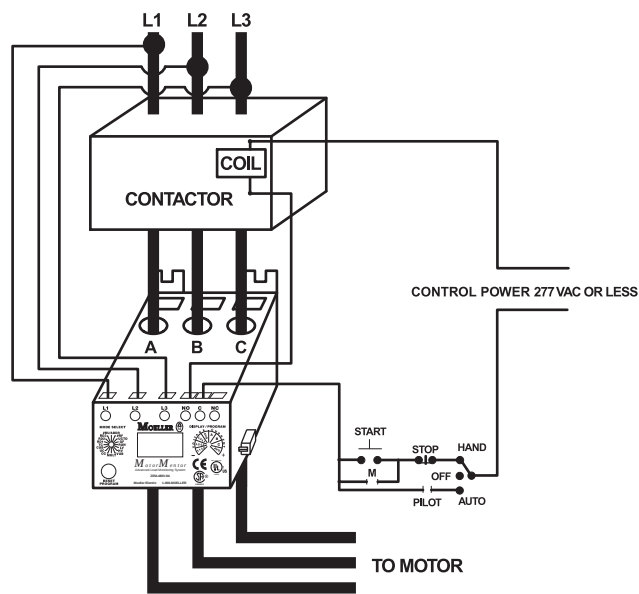

Figure 1: Typical Wiring Diagram for FLA of 26-90
3. A) For amperages from 26-90 amps, insert the motor conductors through the holes marked 'A', 'B', and 'C'. Make certain that the conductor through each hole corresponds to the right motor conductor, i.e. the 'A' phase conductor should go through the 'A' round hole. See figure 1 for a typical wiring diagram.
5. Connect the control circuit wires to the appropriate terminals. The relay is a fail safe design so the 'NO' contact should be in series with the coil on the contactor for motor control (see figure 1). For alarm circuits, the 'NC' contact is in series with the alarm circuitry.